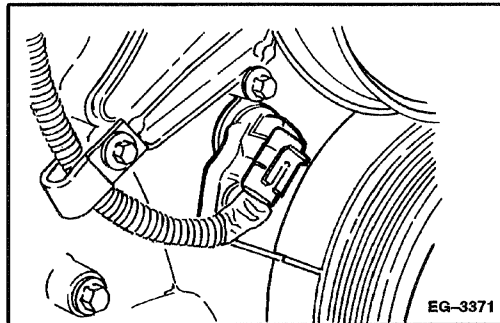

Figure 4.1. – Timing Pointer Aligned with Mark on Damper
- Bar engine over by hand until pointer on camshaft position sensor (CMP) is aligned with the machined timing slot on the crankshaft damper. **Figure 4.1.**